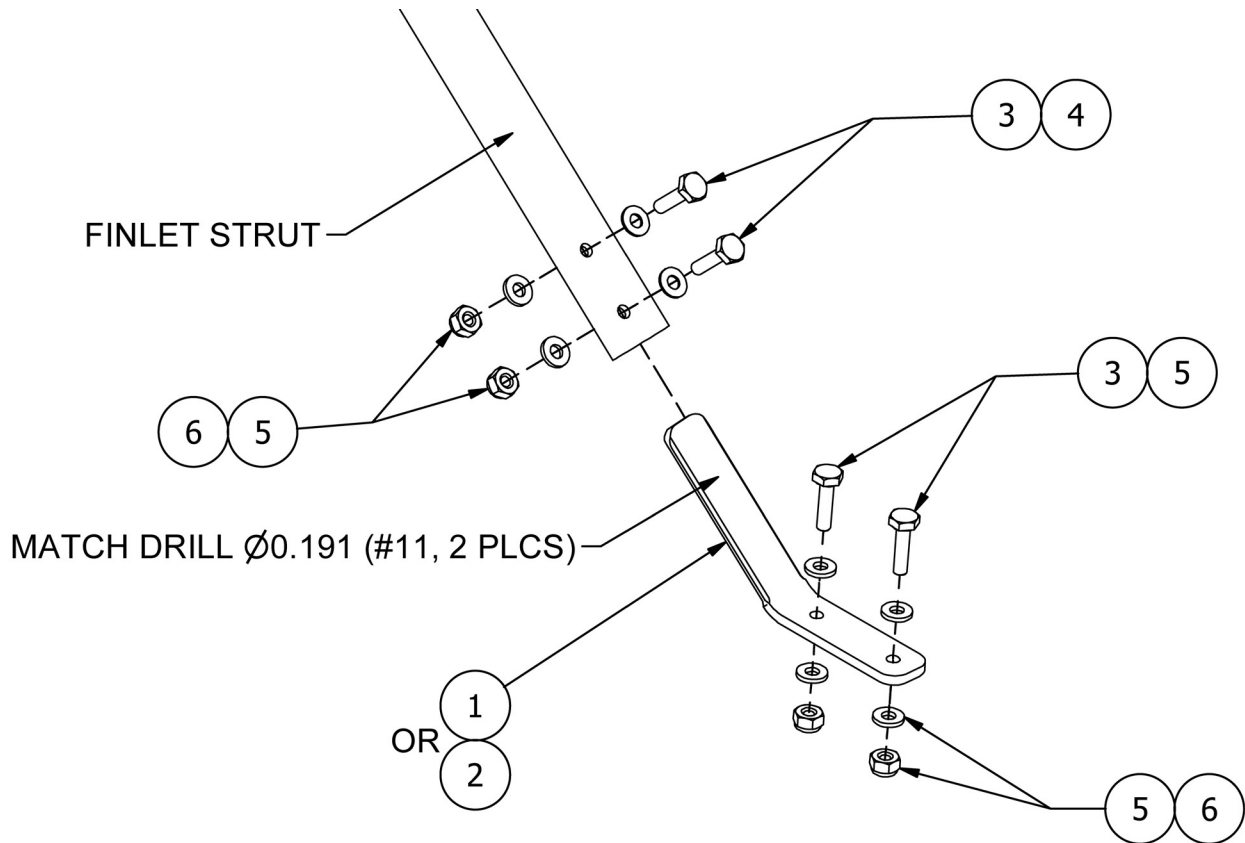

Figure 2 – Finlet Strut to Spar Attachment
8. Reinstall finlet struts. To correct pre-load or missalignment replace the strut fitting on each affected strut. Replacement of the fitting requires match-drilling from the strut through strut fitting. Replace damaged or deformed struts. Refer to Figure 2 and Table 1 below. Apply corrosion protection to match-drilled holes. Torque fasteners to 20-25 in-lbs. Refer also to Parts Manual 1002179 and installation drawing 7D1-4399.